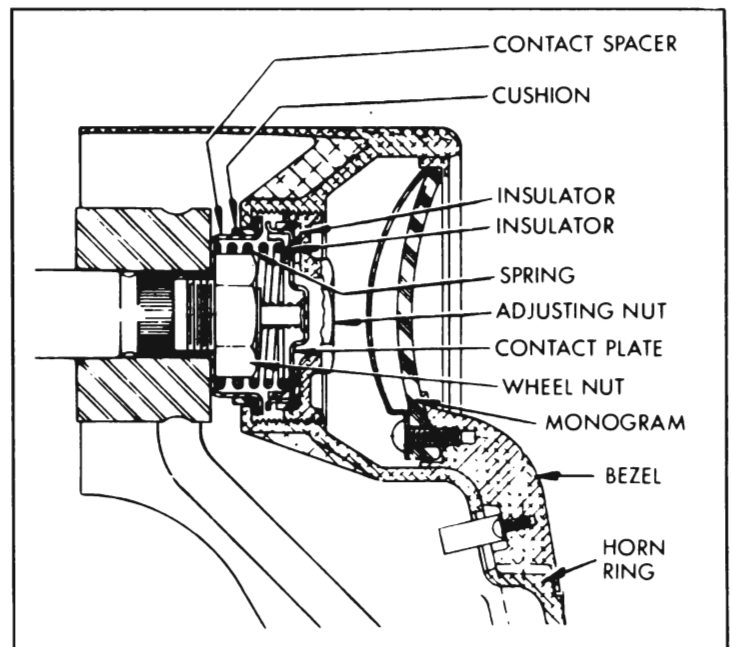

Figure 10-68—Horn Operating Ring Installation
horn operating parts, (1) remove the monogram and bezel assembly by prying carefully under bezel, (2) unscrew and remove the adjusting nut, (3) remove the contact plate and spring, with the two insulators, (4) remove steering wheel nut, (5) remove contact spacer and cushion, (6) remove horn ring. See Figure 10-68.